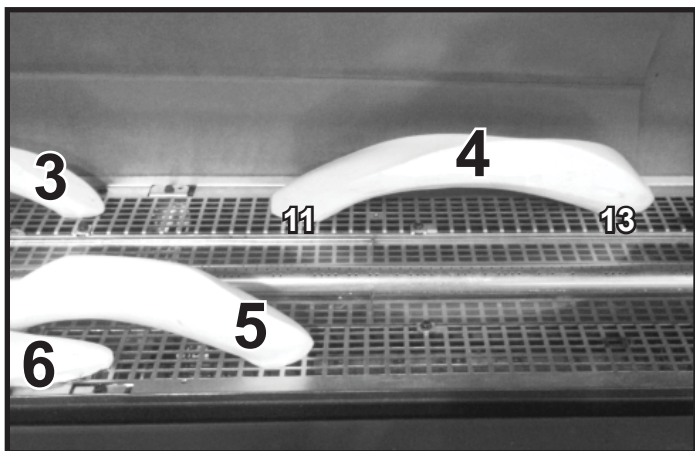

Figure 9. (SRV2310-754)
10. **(SRV2310-754):** Install Log #4 onto shoulder screws #11 and #13 by aligning the log placement holes with the shoulder screws. See Figure 9.